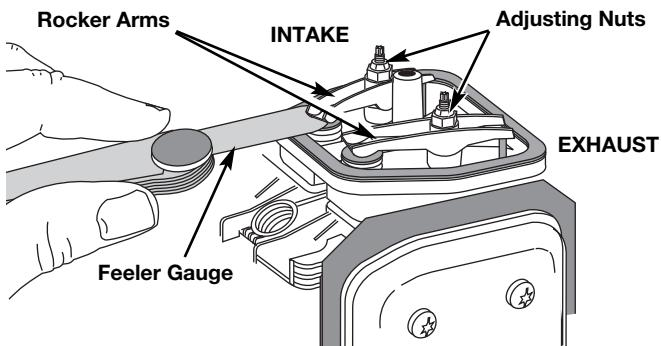

Fig. 34
- Slide the feeler gauge between the rocker arm and the valve return spring. Measure the clearance between the valve stem and rocker arm (Fig. 34). Measure both the intake and exhaust valves.